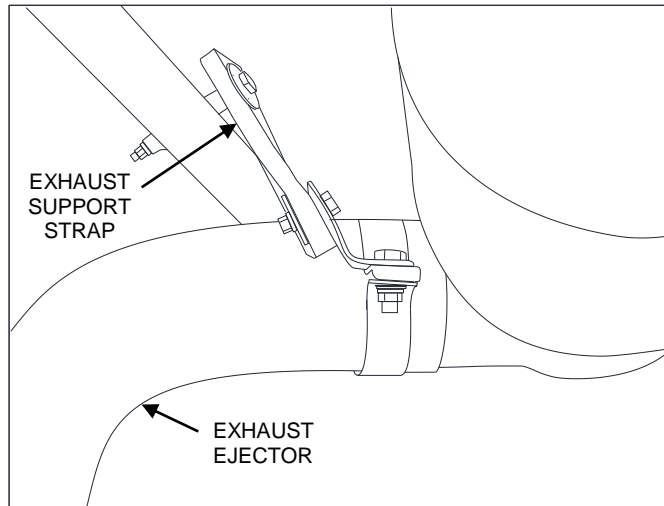

Figure 2 – Exhaust Support Strap
2. Inspect the condition of the Exhaust Support Strap. Check material has not become brittle and that no cracks are present. Check the bolt holes in the Exhaust Support Strap have not become elongated or enlarged allowing excessive moment. Replace if any defects are found. See Figure 2.
3. Check the security of the bolts on either end of the Exhaust Support Strap. Tighten, if required, to reduce movement. See Figure 2.